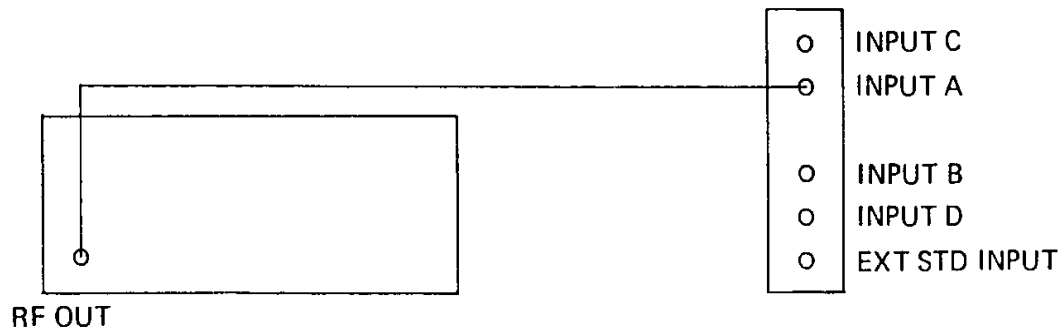

Figure 4-12, Input A Filter Check Configuration
- 4.2.1.2 Connect the counter to the signal generator as shown in **Figure 4-12**.